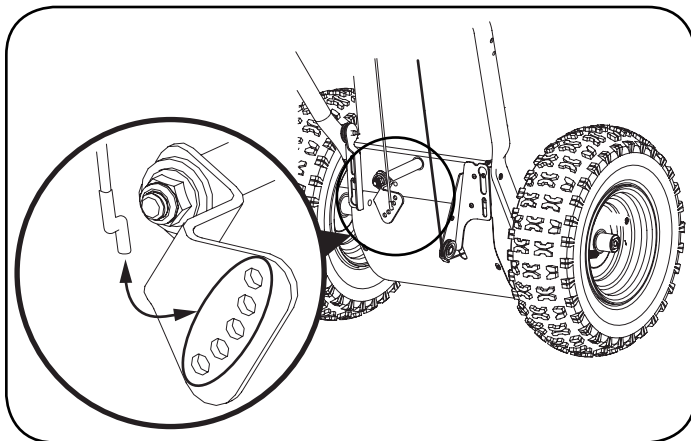

Figure 48
2. Lift the shift cable index bracket (a) up to create slack in the cable (b). See Figure 48.